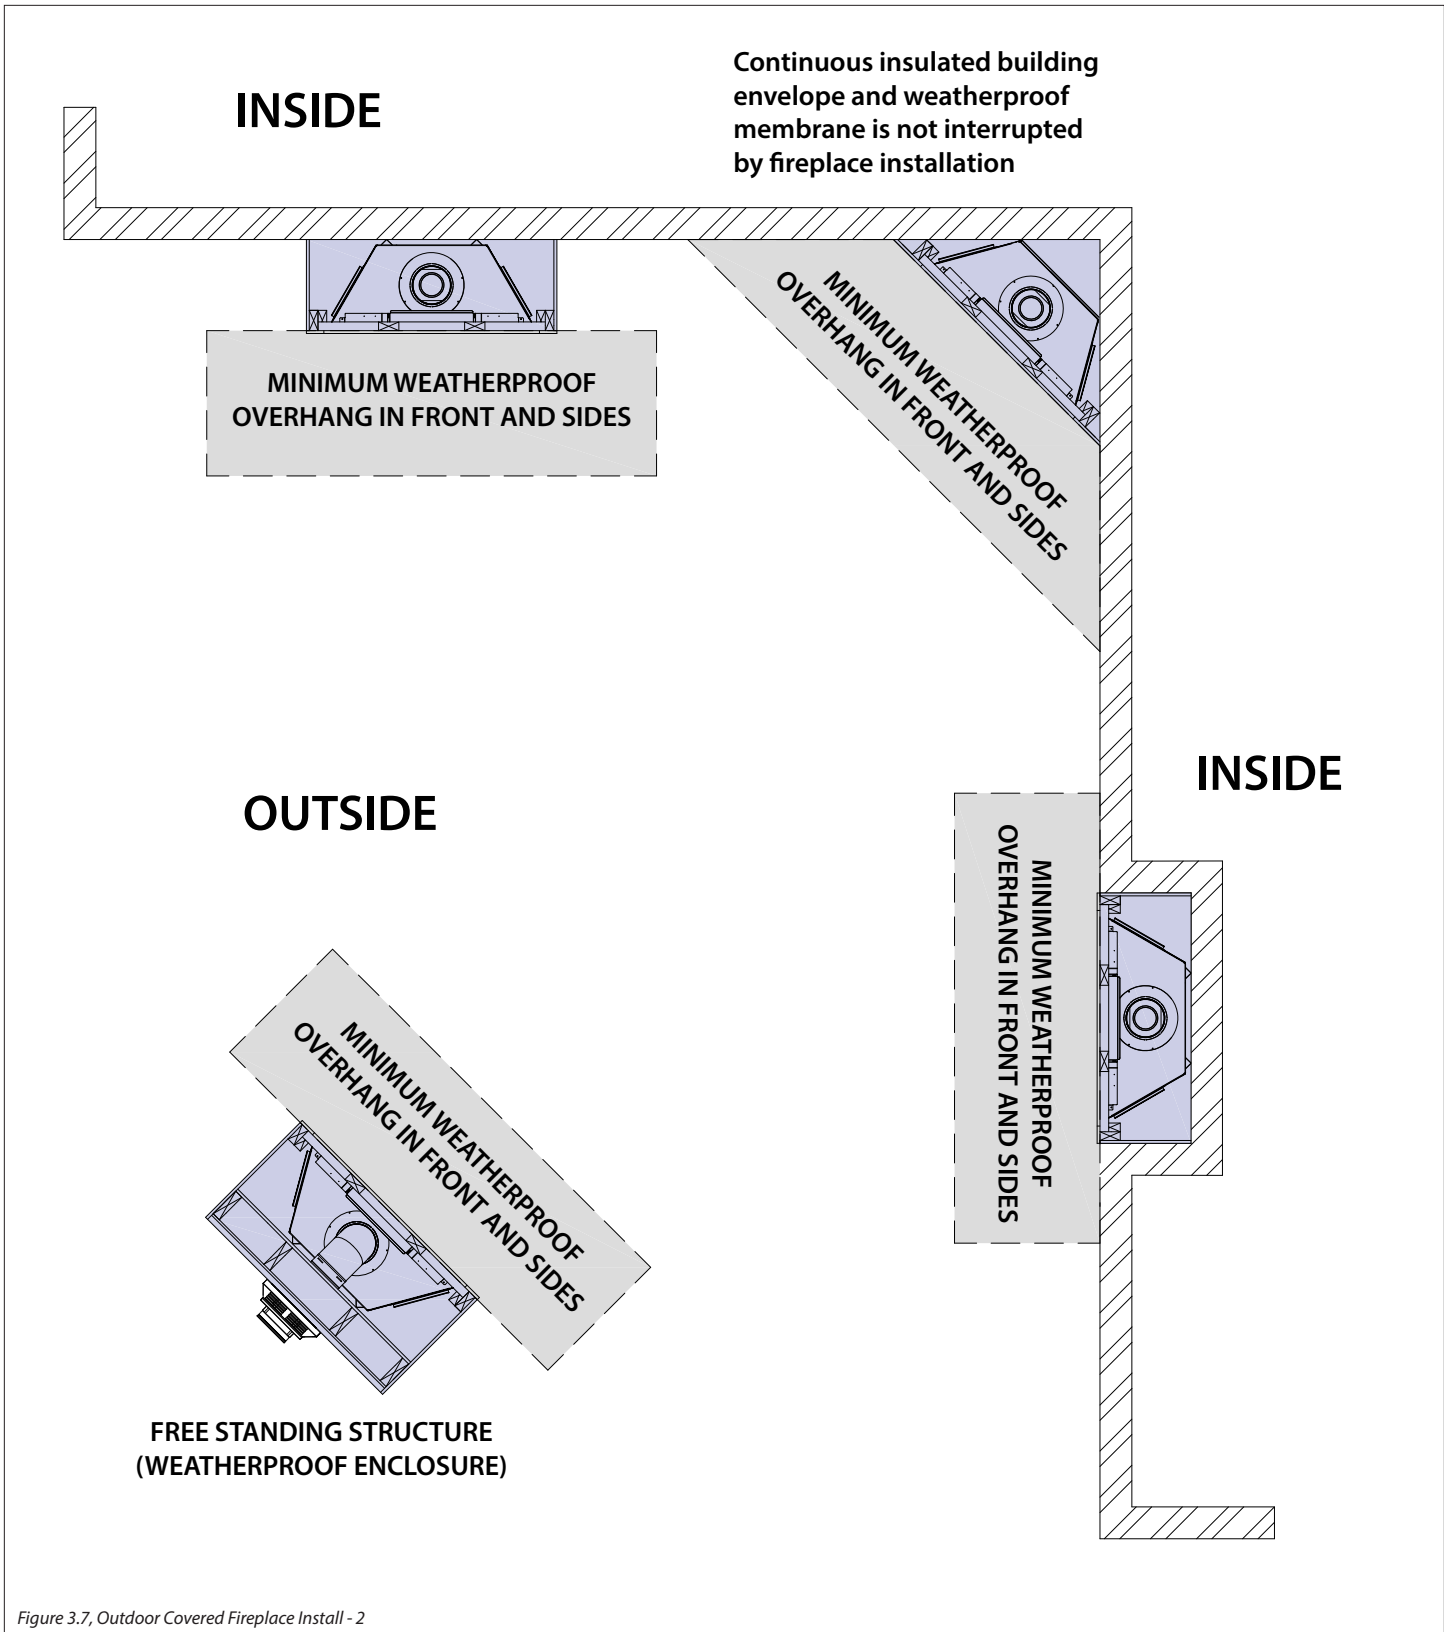

Figure 3.7, Outdoor Covered Fireplace Install - 2
- The continuous insulated building envelope and weatherproof membrane is not to be interrupted by fireplace installation. See Figure 3.7 on the following page.